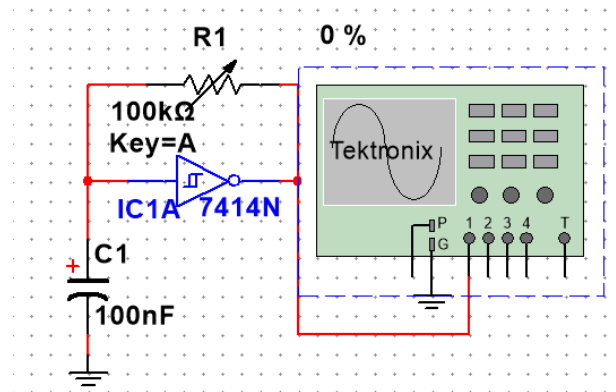
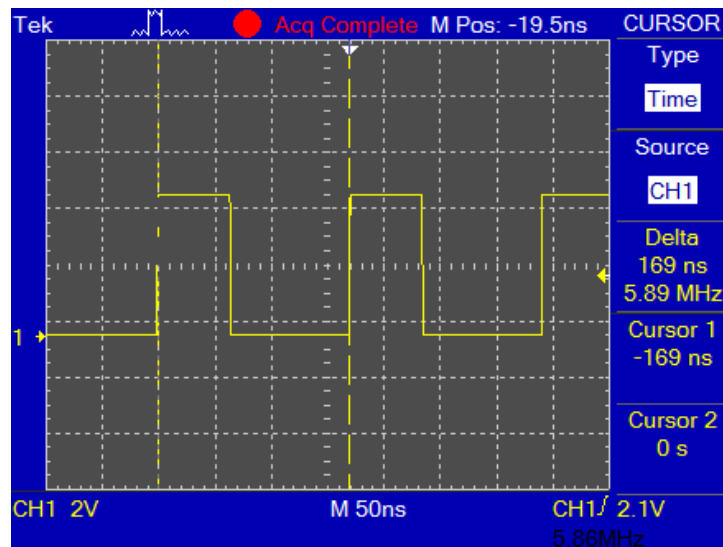
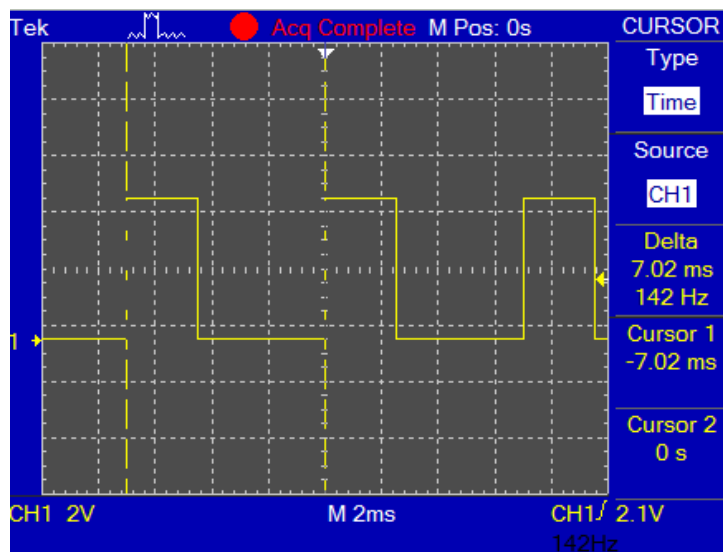

Figure 6: Schmitt Trigger Oscillator with 100k variable resistor
Figure 7: Schmitt Trigger with variable resistor at 0%
Figure 8: Schmitt Trigger with variable resistor at 100%
2. In this procedure, we are tasked with modifying the Schmitt Trigger Oscillator to have a variable resistor to enable the frequency to be variable. In Figure 6, we can see the base circuit that utilizes a 100k variable resistor. In Figure 7 we can see the variable resistor at 0% and in Figure 8 we can see the variable resistor at 100%. The effective frequency range is 142 Hz - 5.89 Mhz when using a 100k variable resistor.